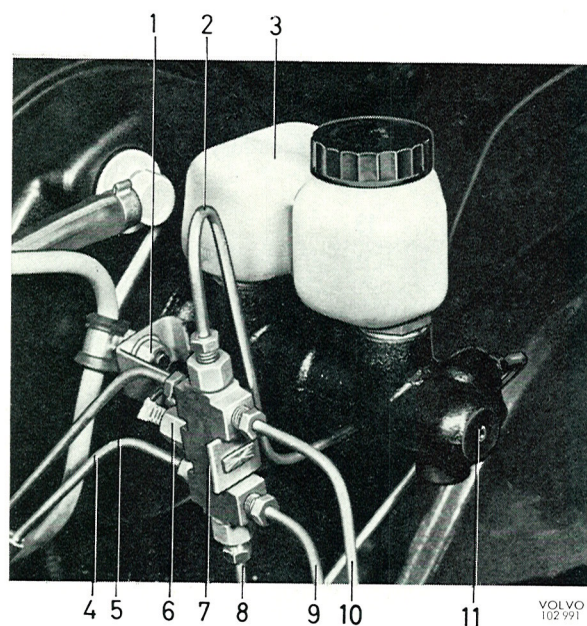

Fig. 5-53. The master cylinder fitted
3. Connect the lines, see Fig. 5-53.
Fig. 5-53 shows the different connections. Vent the brake system.